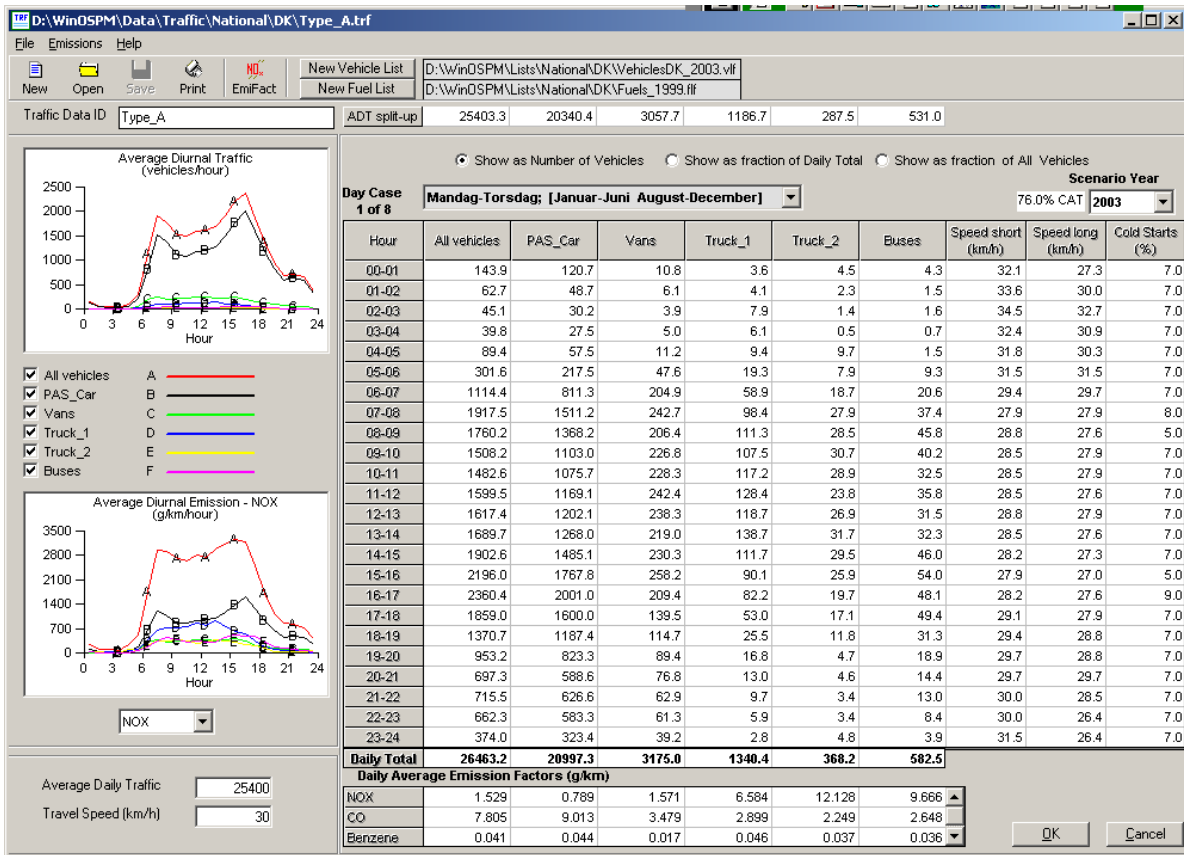

Fig. 7.8 Traffic file displayed in "Mode 1": As numbers of vehicles.
- *Mode 1.* As number of vehicles per hour – the "Show as Number of Vehicles" option button is pressed (Fig. 7.8).